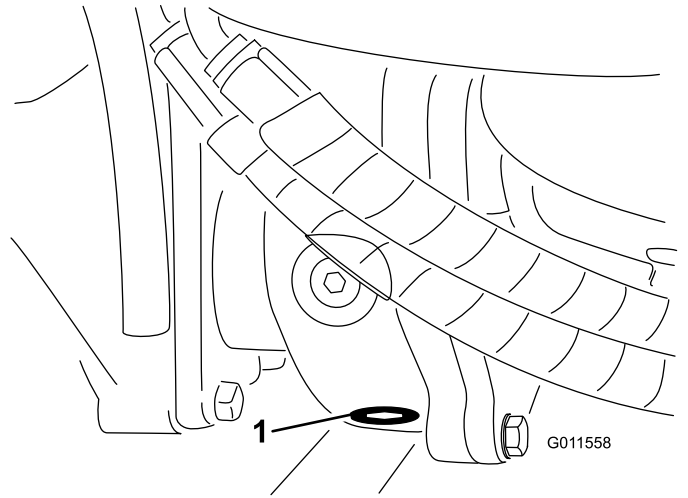

Figure 92
5. Clean the area around the drain plug at the bottom of the gear box (Figure 92).